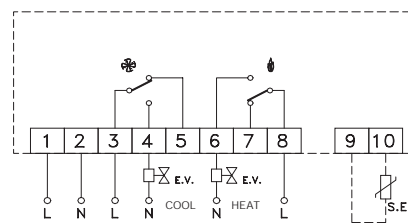

Fig. 5
3. Make electrical wirings according to the diagram of Fig. 5.